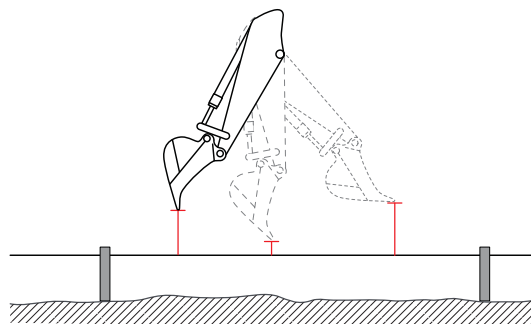

Figure 69: String Line Verification - Stick
3. Curl only the stick in and out at various positions, and measure the distance from the string line to the bucket teeth with a measuring tape (Figure 69).